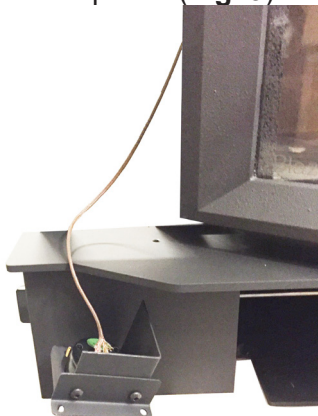

Fig. 8
1. Position catalytic thermometer wire across the ash shelf. (Fig. 8)